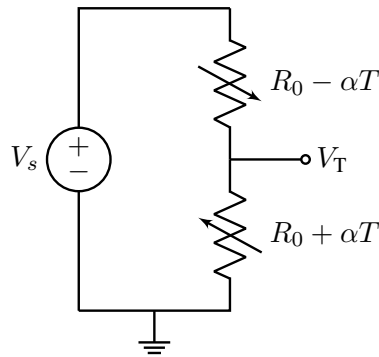

Figure 17: Temperature Sensing Circuit
- (a) First you build a circuit that converts temperature change to voltage change. Your design is shown in Fig. 17. In your design you use two temperature dependent resistors, whose values are given by $R_0 + \alpha T$, $R_0 - \alpha T$, where R_0 is the resistor value at 0 degrees centigrade, α is a thermal coefficient, and T is the temperature of your eye pads.